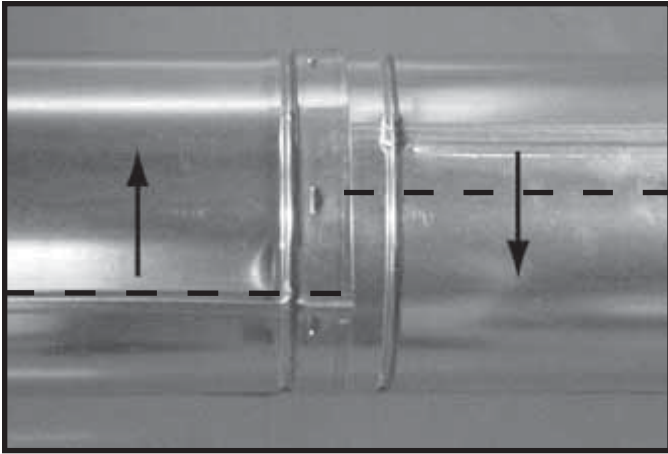
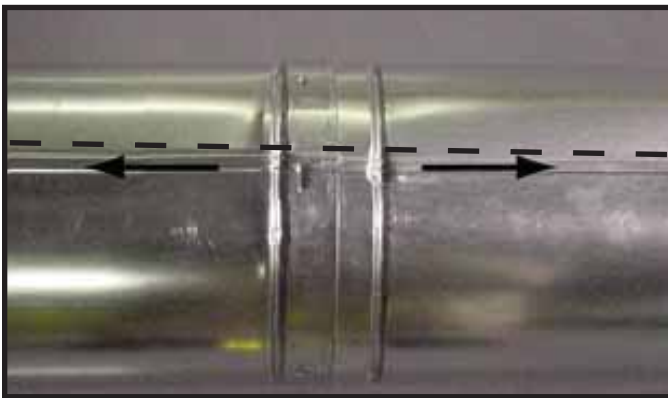

Figure 10.7 Rotate Seams for Disassembly
Figure 10.8 Align and Disassemble Vent Sections
- Rotate either section (see Figure 10.7) so the seams on both pipe sections are aligned as shown in Figure 10.8.